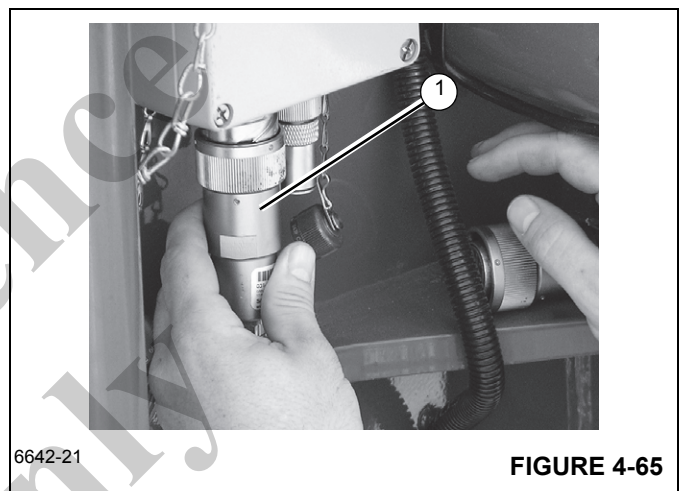

FIGURE 4-65
- c. Install cable end connector (1) Figure 4-65 from boom extension where dummy plug was removed.